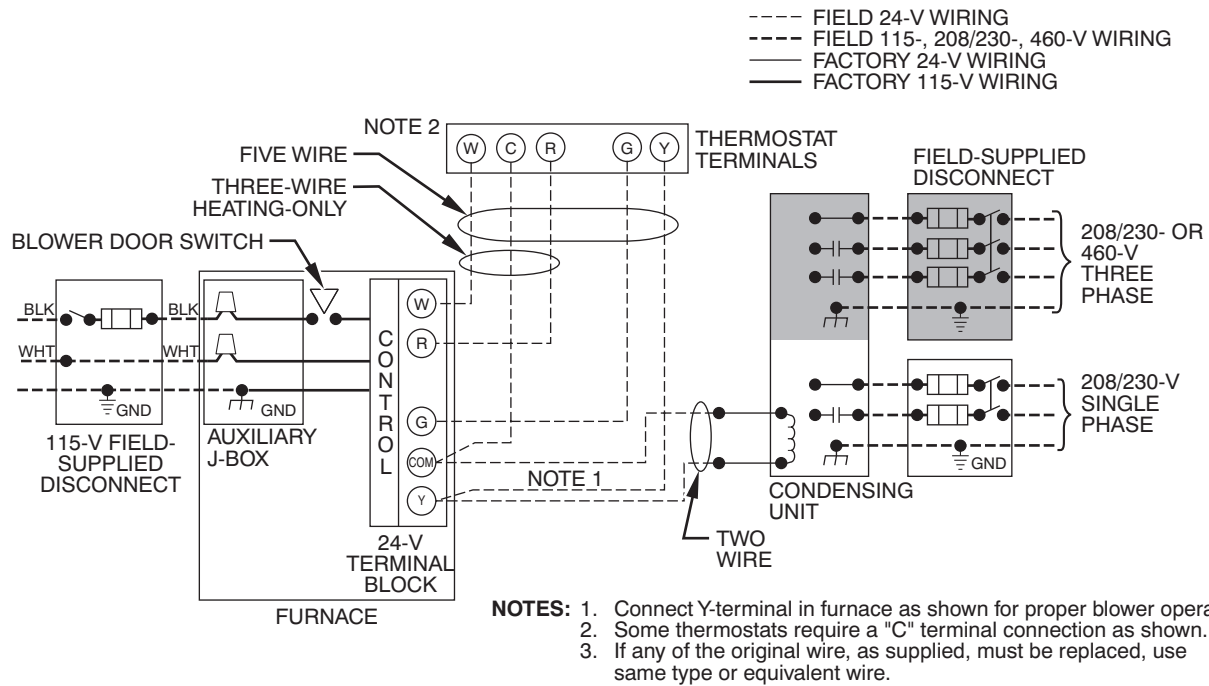
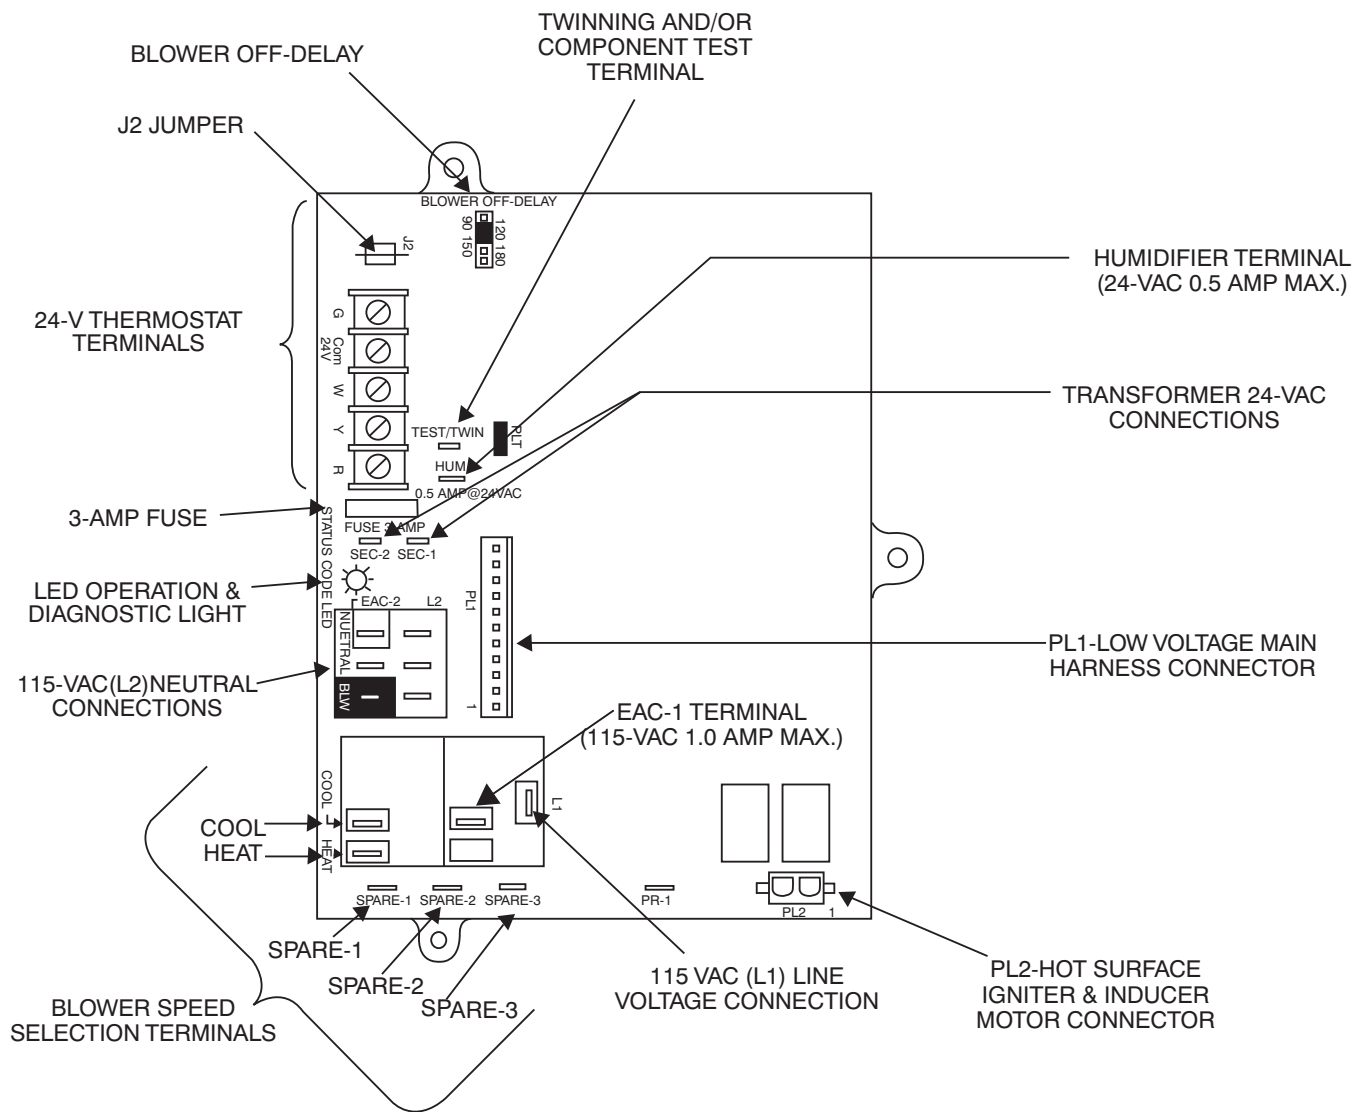

Fig. 37 - Typical Single-Stage Wiring Diagram
Fig. 38 - Example of Single Stage Furnace Control
7. Connect field power and neutral leads to furnace power leads as shown in Fig. 37.
6. Connect power cord power and neutral leads to furnace power leads as shown in Fig. 37.
5. Connect field power and neutral leads to furnace power leads, as shown in Fig. 37.
Make field 24-v connections at the 24-v terminal strip. See Fig. 38. Connect terminal Y as shown in Fig. 37 for proper cooling operation. Use only AWG No. 18, color-coded, copper thermostat wire.
The 24-v circuit contains an automotive-type, 3-amp. fuse located on the control. Any direct shorts during installation, service, or maintenance could cause this fuse to blow. If fuse replacement is required, use **ONLY** a 3-amp. fuse of identical size. See Fig. 38.